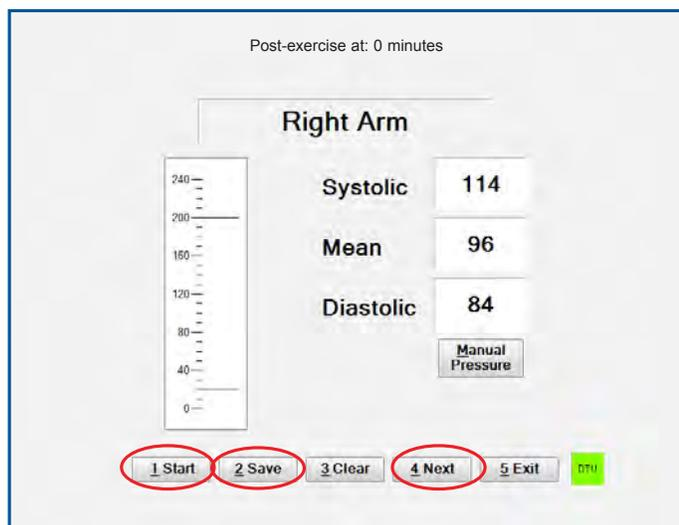

FIGURE 1.33 - Right Arm - “Start”, “Save” and “Next” Buttons
44. At the “0” minute interval immediately following exercise, the software will prompt the user to take the pressure of the arm with the highest recorded at-rest pressure. Properly position the patient for testing. Click “Start” or press 1 (Figure 1.33).
45. After the values display, click “Save”, or press 2 (Figure 1.33).
46. Click “Next”, or press 4 (Figure 1.33).